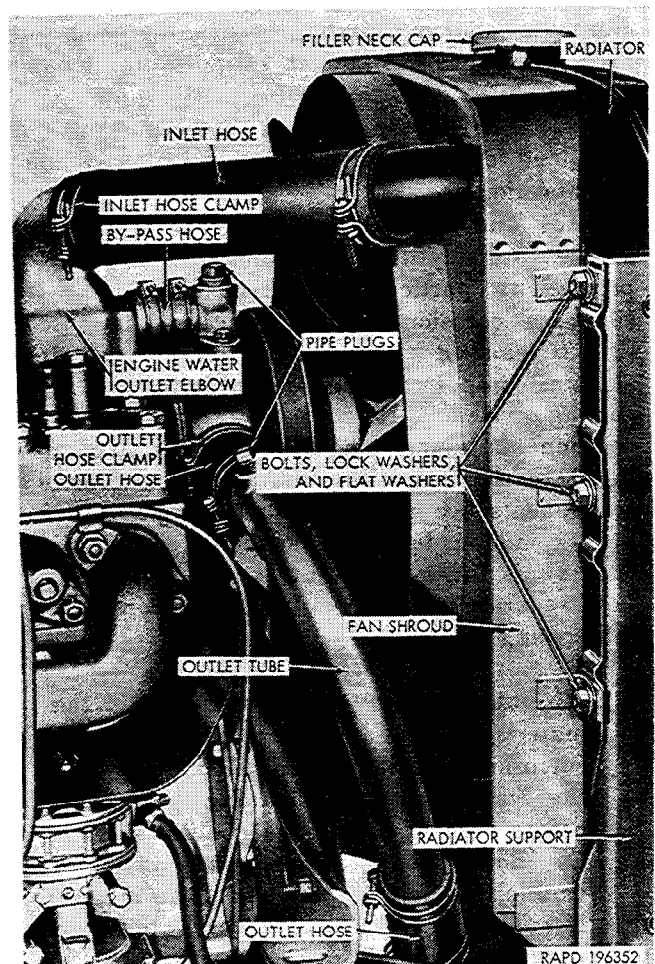
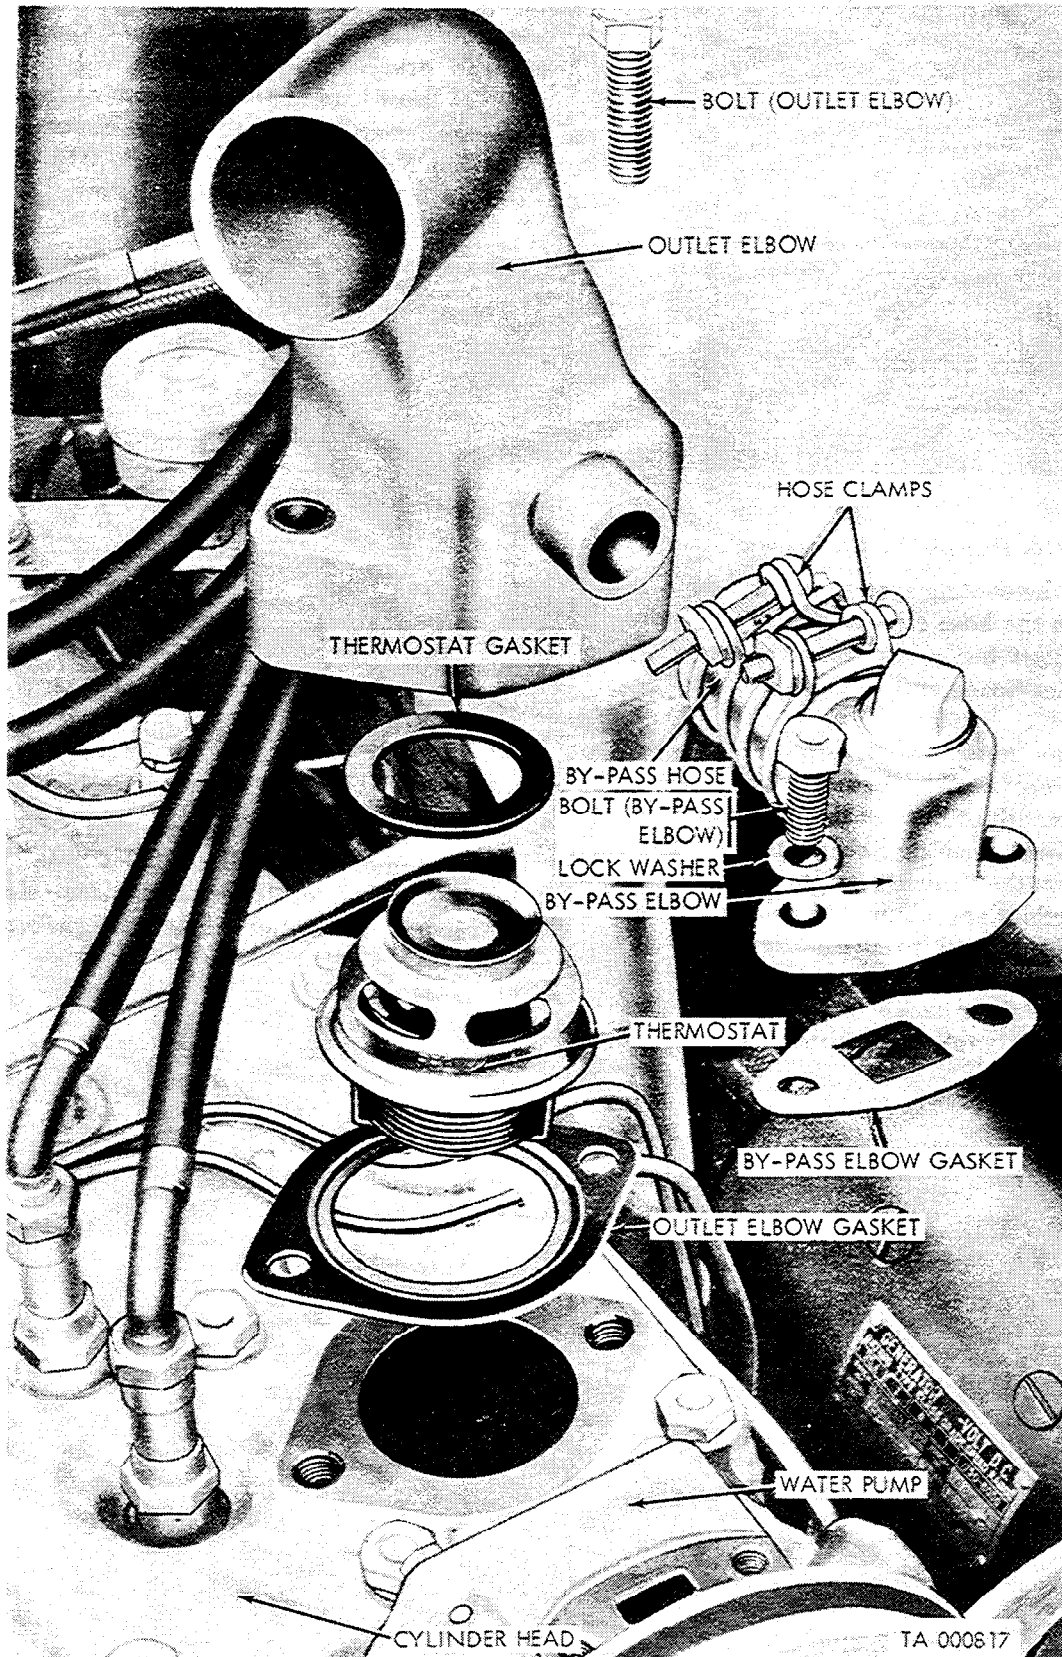

Figure 2-115. Radiator and hoses.
Figure 2-118. Water outlet elbow, thermostat and related parts.
(1) If radiator is hot, remove the filler neck cap (fig. 2-115) slowly to permit pressure to escape through the vent in the cap. Open the radiator drain cock (fig. 2-169) at front lower right corner of the radiator core. If cooling system contains antifreeze, drain it into a suitable container and save it for use again.
(b) Loosen the hose clamps on the radiator inlet hose and outlet hoses and remove the inlet hose and the outlet hoses and outlet tube (fig. 2-115).
(c) Clamp a convenient length of new hose to the radiator core outlet opening, and attach another suitable length of hose to the radiator inlet opening to carry away flushing stream (fig. 2-115).
(b) Remove the radiator inlet hose (fig. 2-115), the water outlet elbow, and thermostat (fig. 2-118). Install the outlet elbow and gasket.
(c) Loosen the hose clamp on the radiator outlet hose (fig. 2-115), and disconnect the hose from the water pump.
a. Remove Radiator Inlet and Outlet Hoses and Radiator Outlet Tube (fig. 2-115).
(1) Drain cooling system (para 2-92 a).
(2) Loosen the radiator inlet hose clamps by loosening the clamp screws. Remove the hose with clamps. Remove the clamps from the hose if hose is to be discarded or clamps must be replaced.
(3) Loosen the radiator outlet hose upper and lower hose clamps. Remove the outlet hoses and the outlet tube. Remove the clamps from the hoses if the hoses are to be discarded or other clamps must be replaced.
(1) Clean rust and scale from the outlet tube. Clean all hose connections.
(2) Inspect the inlet and outlet hose clamps for distortion, cracks, corrosion damage, or stripped threads. Replace clamps as necessary.
(3) Inspect the outlet tube for corrosion damage, cracked weld around pipe plug boss (on vehicles so equipped), and other visual damage. Replace tube as necessary.
c. Install Radiator Inlet and Outlet Hoses and Radiator Outlet Tube (fig. 2-115).
(1) Remove the two bolts and lockwashers attaching the water pump bypass elbow to the water pump (fig. 2-118).
(2) Loosen the two hose clamps and remove the bypass elbow and hose. Remove the clamps and discard the bypass hose and bypass elbow gasket.
(3) Install a hose on the water pump bypass elbow. Install a hose clamp on each end of the hose.
(4) Clean both gasket contacting surfaces, and install a new water pump bypass elbow gasket on the water pump. Install the bypass elbow hose
(1) Drain sufficient coolant from the cooling system (para 2-92 a) to lower the level to below the cylinder head.
(2) Loosen the hose clamp that secures the radiator inlet hose to the engine water outlet elbow (fig. 2-115), and remove the hose from the elbow.
(3) Remove the two bolts and lockwashers that attach the water pump bypass elbow to the water pump (fig. 2-118).
(4) Remove the two bolts that secure the engine water outlet elbow to the cylinder head, and remove the outlet elbow and bypass elbow as a unit. Remove and discard the bypass elbow gasket.
(5) Remove the thermostat, the thermostat gasket, and the outlet elbow gasket. Discard gaskets.
(1) Clean the gasket contacting surfaces and hose contacting surfaces thoroughly. Apply a coating of liquid type gasket cement to both sides of a new outlet elbow gasket and a new bypass elbow gasket (fig. 2-118).
(2) Install the outlet elbow gasket on the cylinder head and the bypass elbow gasket on the water pump.
(3) Install a new thermostat gasket on the top of the thermostat, and install the thermostat in the cylinder head with the word FRONT toward the radiator and coils of thermostat down into block.
(4) Mount the assembled elbows in position and install the two bolts in the outlet elbow, and the two lockwashers and bolts in the bypass elbow. Tighten all bolts evenly.
(5) Apply liquid type gasket cement to the outlet elbow at the hose connection. Install the radiator inlet hose on the elbow, and tighten the hose clamp.
(6) Fill the cooling system (para 2-92 b).
(1) Drain the cooling system (para 2-92 a).
(2) Remove the fan and related parts (a above).